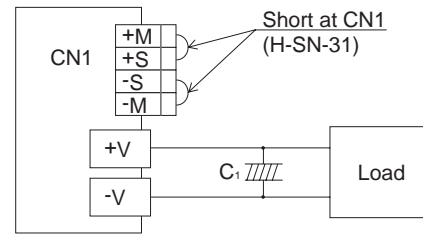

Fig.5.10 When not using remote sensing function
- Please see Fig.5.10 if you do not use the remote sensing function.